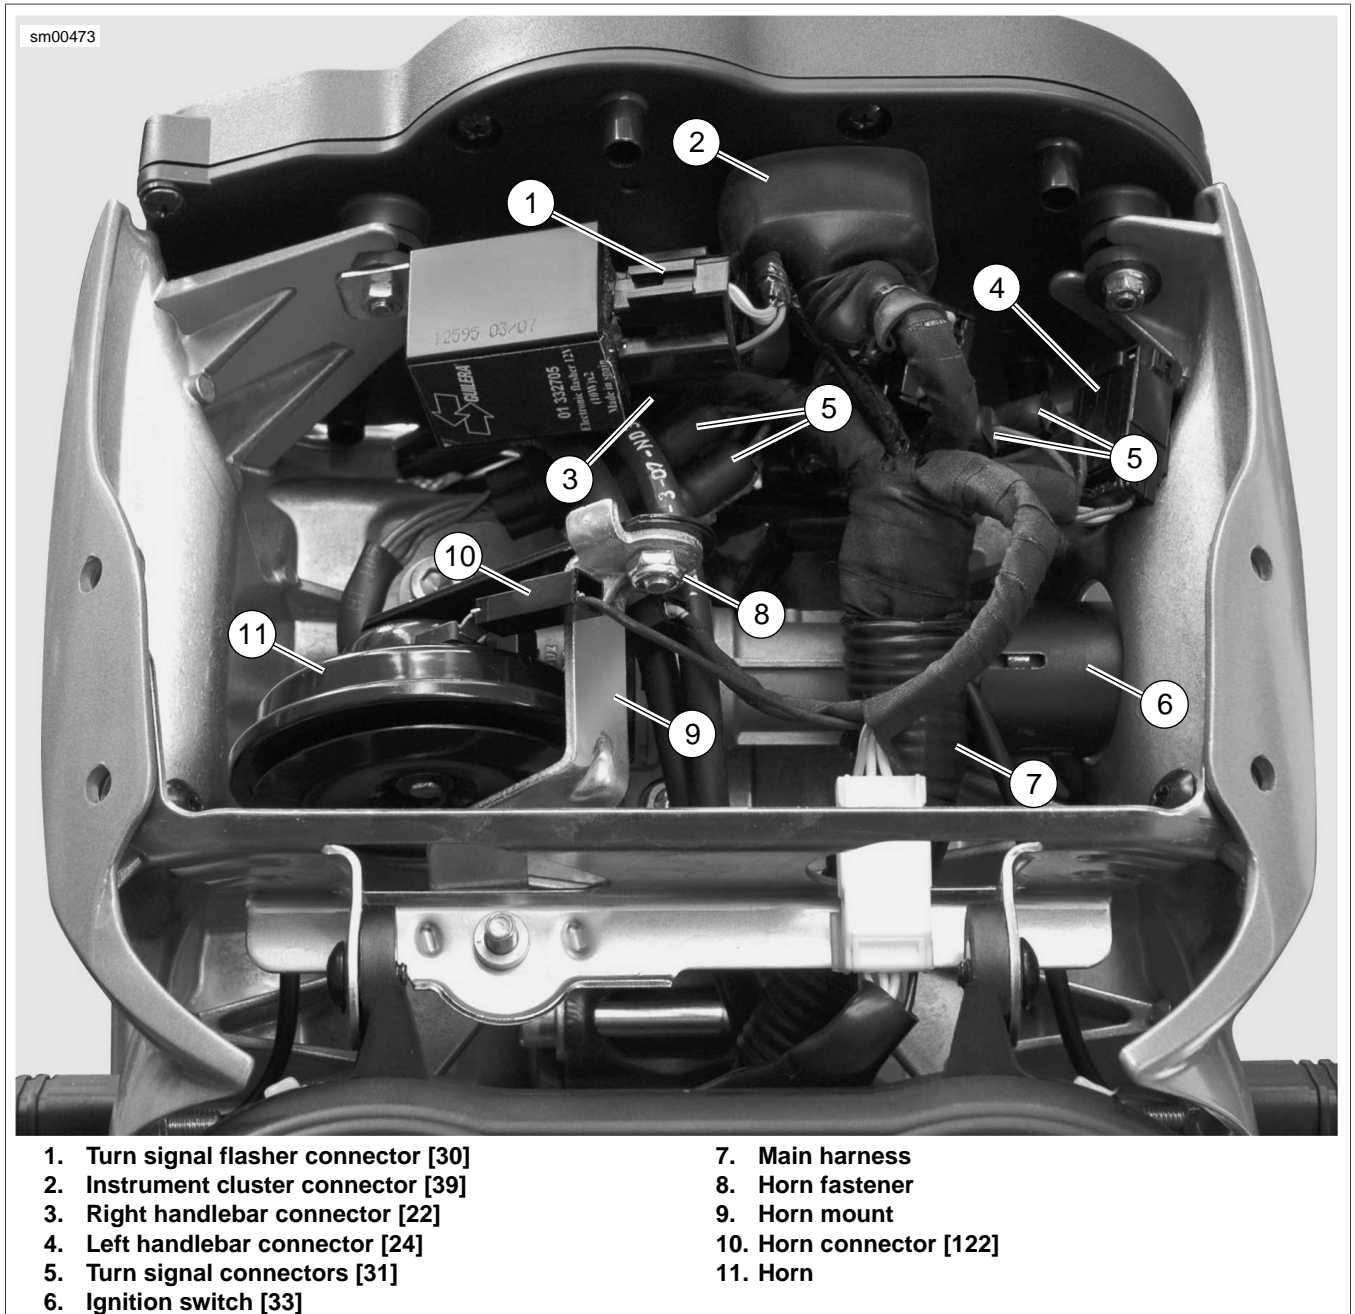

Figure 6-100. Electrical Connectors Behind Windscreen: Lightning
- Lightning: Figure 6-100.
7. Route portion of main wire harness that contains the positive battery cable (3), sprocket cover wiring (4) and transmission vent hose (2) through corner mounting strap and guide (1) at rear of frame. Install **new** plastic tree fasteners.
8. See Figure 6-100. Connect:
- c. Horn connector [122] (11).
- e. Turn signal connectors [31] (5).
- f. Left handlebar connector [24] (4) and right handlebar connector [22] (3).
- g. Instrument module connector [39] (2).
- h. Turn signal flasher connector [30] (1).